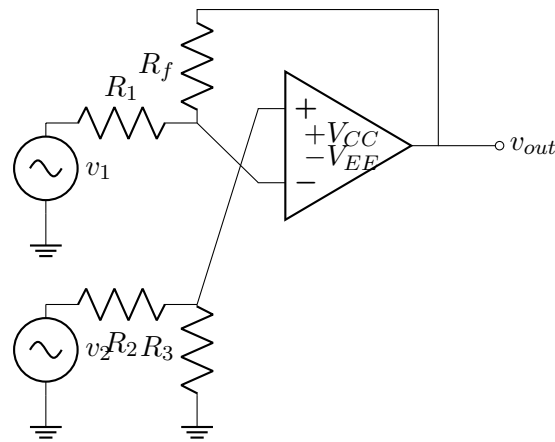

Figure 2.2: Difference amplifier (subtractor). With $R_1 = R_2$ and $R_f = R_3$, $v_{out} = (R_f/R_1)(v_2 - v_1)$.
Figure 2.2 shows the standard single-op-amp difference amplifier. Input v_1 drives the inverting side through R_1 , with feedback resistor R_f ; input v_2 drives the non-inverting side through a resistor R_2 , with R_3 from the non-inverting terminal to ground. By superposition (or direct node analysis using the virtual-short condition):
1. Assemble the subtractor circuit of Figure 2.2 using the designed resistor values.